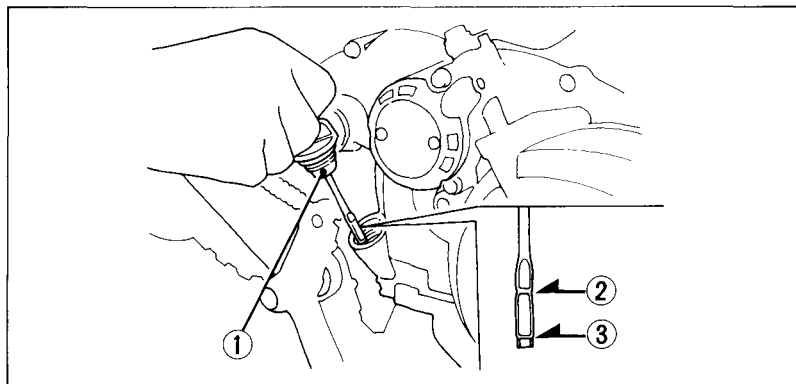

Fig. 4-10
2. Remove the oil filler cap/dipstick (Fig. 4-10) from the right crankcase cover and wipe it clean.
3. Insert the dipstick without screwing it in, then remove the dipstick and check the oil level. The oil level should be between the upper level mark (2) and the lower level mark (3) on the dipstick.
1. With the FOURTRAX on level ground, remove the oil filler cap/dipstick from the right crankcase cover (Fig. 4-10).